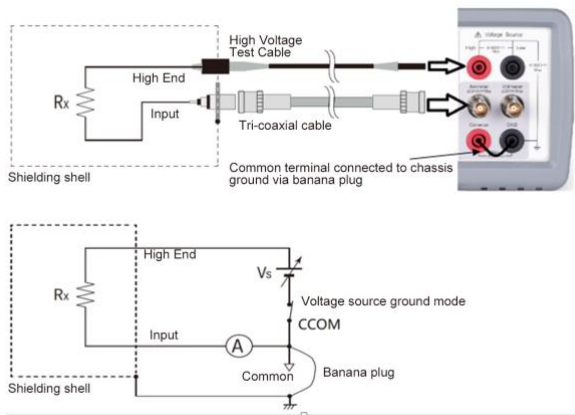

Figure 5-10 Floating Device Measurement
Before turning the instrument on, connect cable, test leads, test fixture, and so on, used for the measurement. See Figure 5-10 and 5-11 for connection examples.
**Note:** Voltage Source Low terminal is internally connected to or disconnected from the circuit common as shown in Figure 5-10. See "Low Terminal State" for more information.
- 5) Connect resistor (DUT) to measure. See Figure 5-10 and 5-11 for the connection.